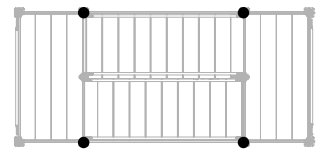
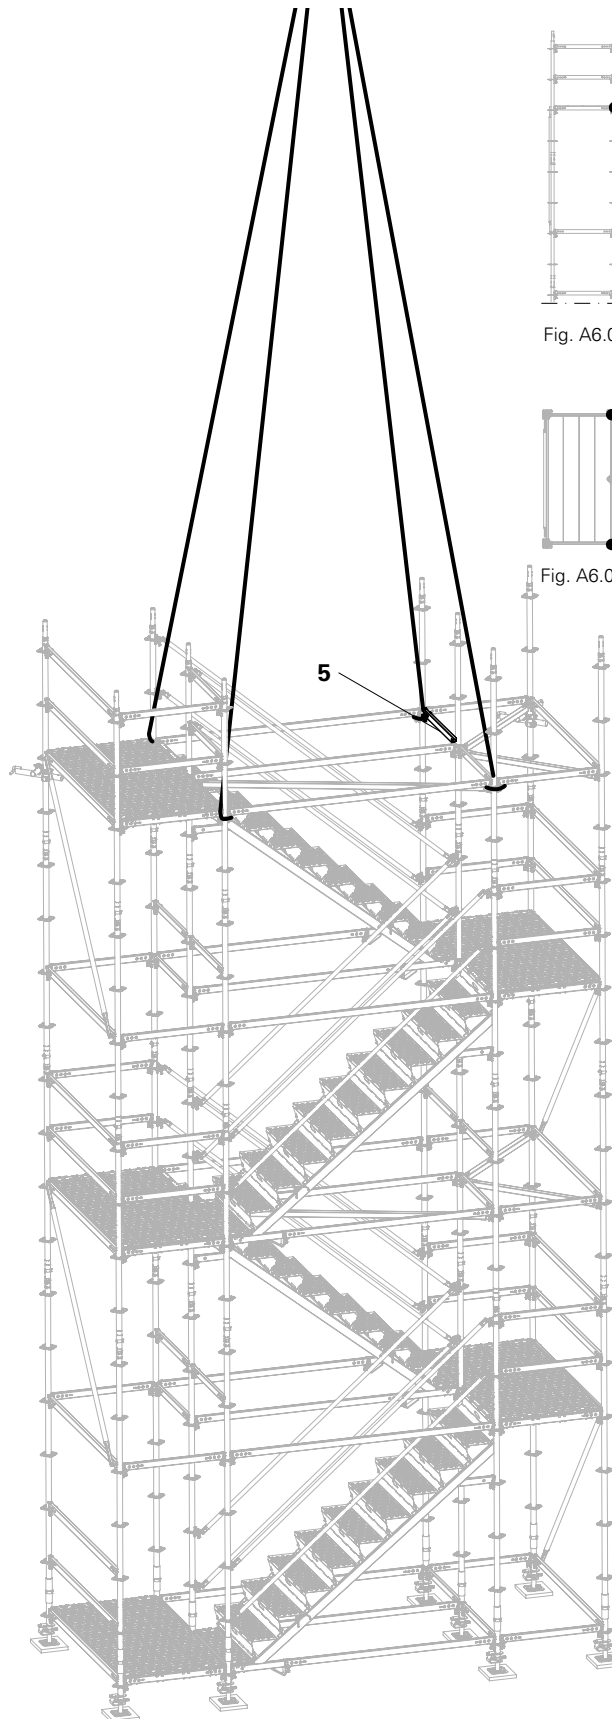

Fig. A6.01b
Fig. A6.01
- For bracing when moving, fit a Horizontal Ledger UH-2 100E (5) or 125.
1. From a safe working position, place four chains or textile lifting gear, e.g. round slings, around the standards below the rosette nodes. (Fig. A6.01 - Fig. A6.01b)